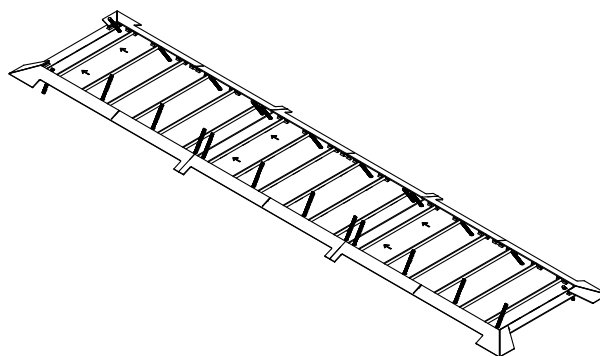

Figure 35
3. Position 5/8" x 15" steel rebar, and hammer them through the drilled holes. Leave 3/8" above the ground plates. See **figure 35**.